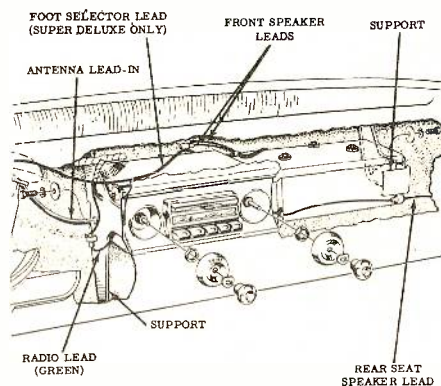

Fig. 5—Location of key points in removal procedure.
3. Disconnect the green battery "A" lead at the plastic push-in connector (see Fig. 5).
5. On cars equipped with rear seat speakers disconnect speaker wire from push-in connector located in clip, on the lower right front corner of the power unit (see Fig 5).